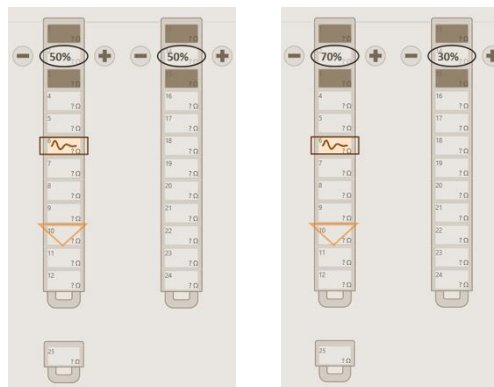

Figure 7.2: Current steering: 50:50 (%) on the left and 70:30 (%) on the right.
1. Select 2 to 4 stimulation electrodes. The stimulation electrodes will now be displayed with a % value and a '-' icon on the left and '+' icon on the right (see Figure 7.2).